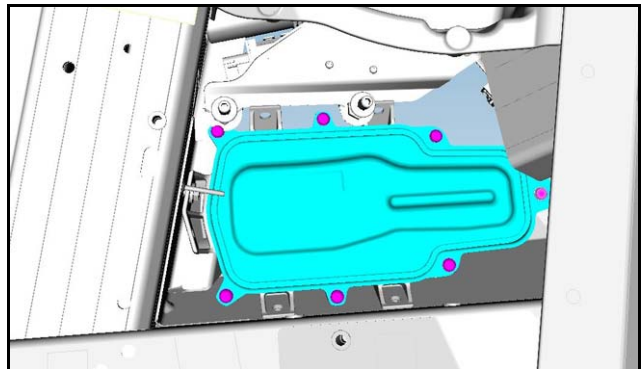

Figure 11
32. Remove the seven screws that attach the tonneau motor box lid (Refer to Figure 11).